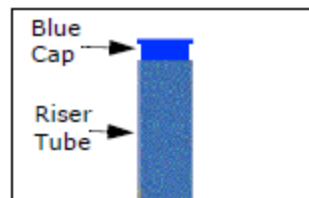

Figure 3 Blue Cap in Riser Tube
3. Assure blue cap (supplied), see Figure 2, is inserted partially into top end of riser tube as depicted in Figure 3 below.